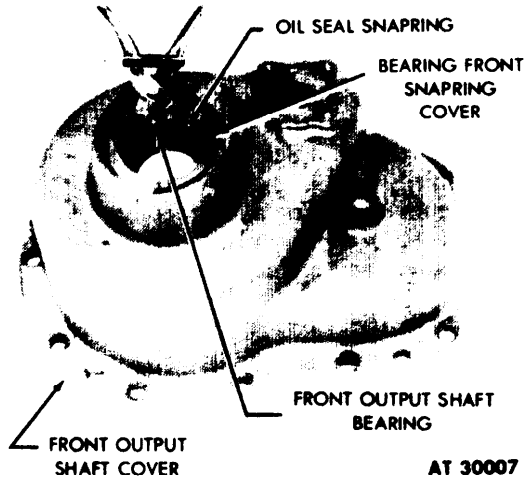

Figure 4-19. Front Output Shaft Cover Disassemble.
Remove front output shaft oil seal snapping. (See fig. 4-19.) To remove seal from cover, place in press and press against front bearing thrust washer.
- c. Front output shaft cover (fig. 4-19).